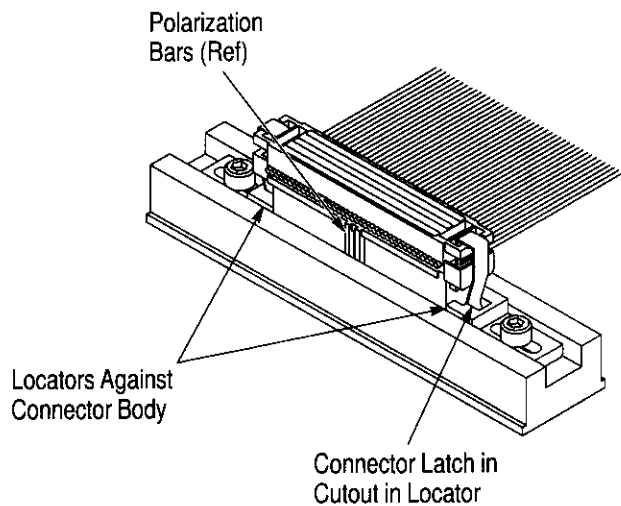

Figure 3
2. Place the connector between the locators and slide the locators against the connector body—the latches should fit in the cutout in the locators. Then secure the locators by fully tightening the socket head cap screws. See Figure 3.
- Remove the cover from the connector and place the connector into the lower insert as described in Paragraph 3.1. Take note of the polarization bars on the connector (refer to Figure 3)—make sure that each connector is oriented the same for production as the setup connector.